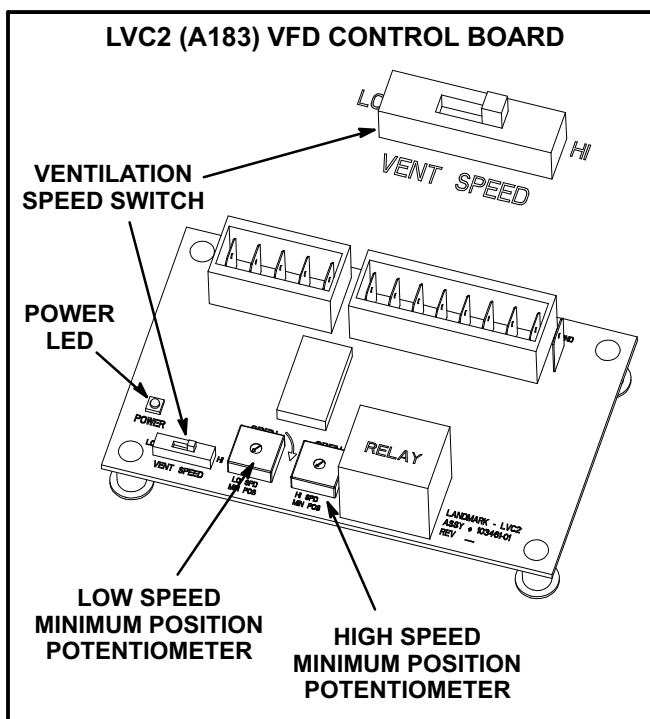

FIGURE 12
To save energy during ventilation, the blower speed can be set to low. This is accomplished by changing the ventilation speed switch on the VFD control board to “LO”. See figure 12.
To maintain required minimum ventilation air volumes when the unit is in the occupied mode, two minimum damper positions must be set. A high and a low speed potentiometer are provided on the VFD control board to adjust minimum damper position. See figure 12.
5. Check the power LED on the board. See figure 12.
8. When LVC2 24VAC thermostat blower (G) input and 24VDC power are present, check the LVC2 low and high speed outputs. The LVC2 uses inverse logic to enable the blower; 1VDC will be read at the enabled blower speed terminal. See table 7.